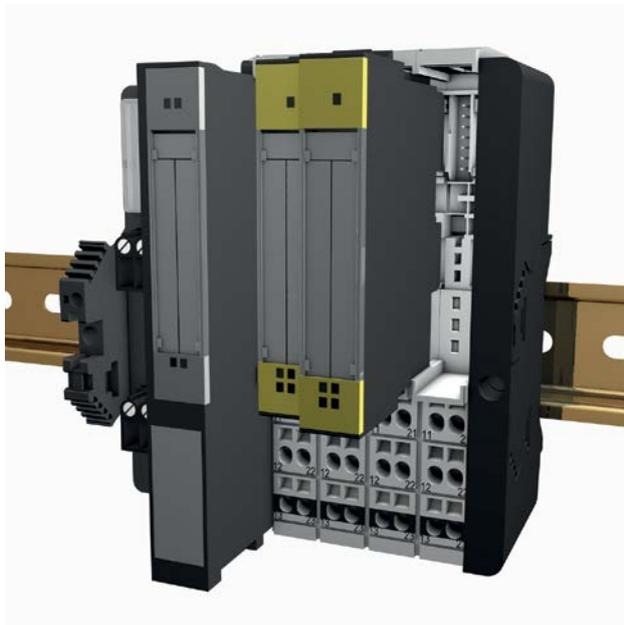

Fig. 12: Mounting BL20 electronic modules
- Push the electronic module evenly onto the base module as per Fig. 12 until there is an audible click.